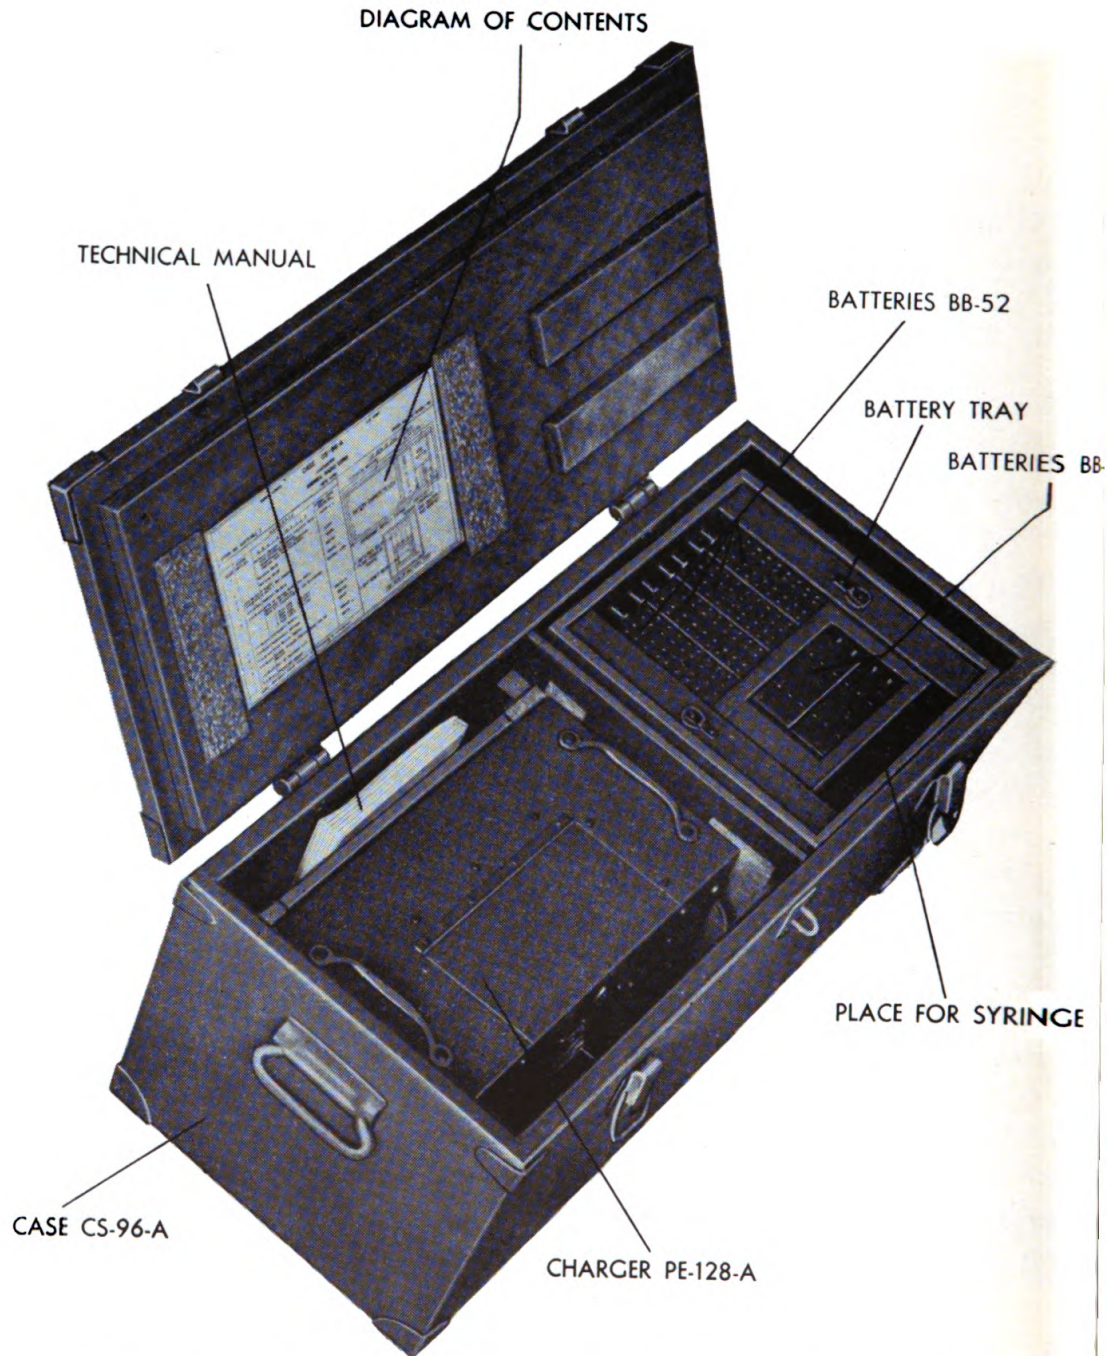
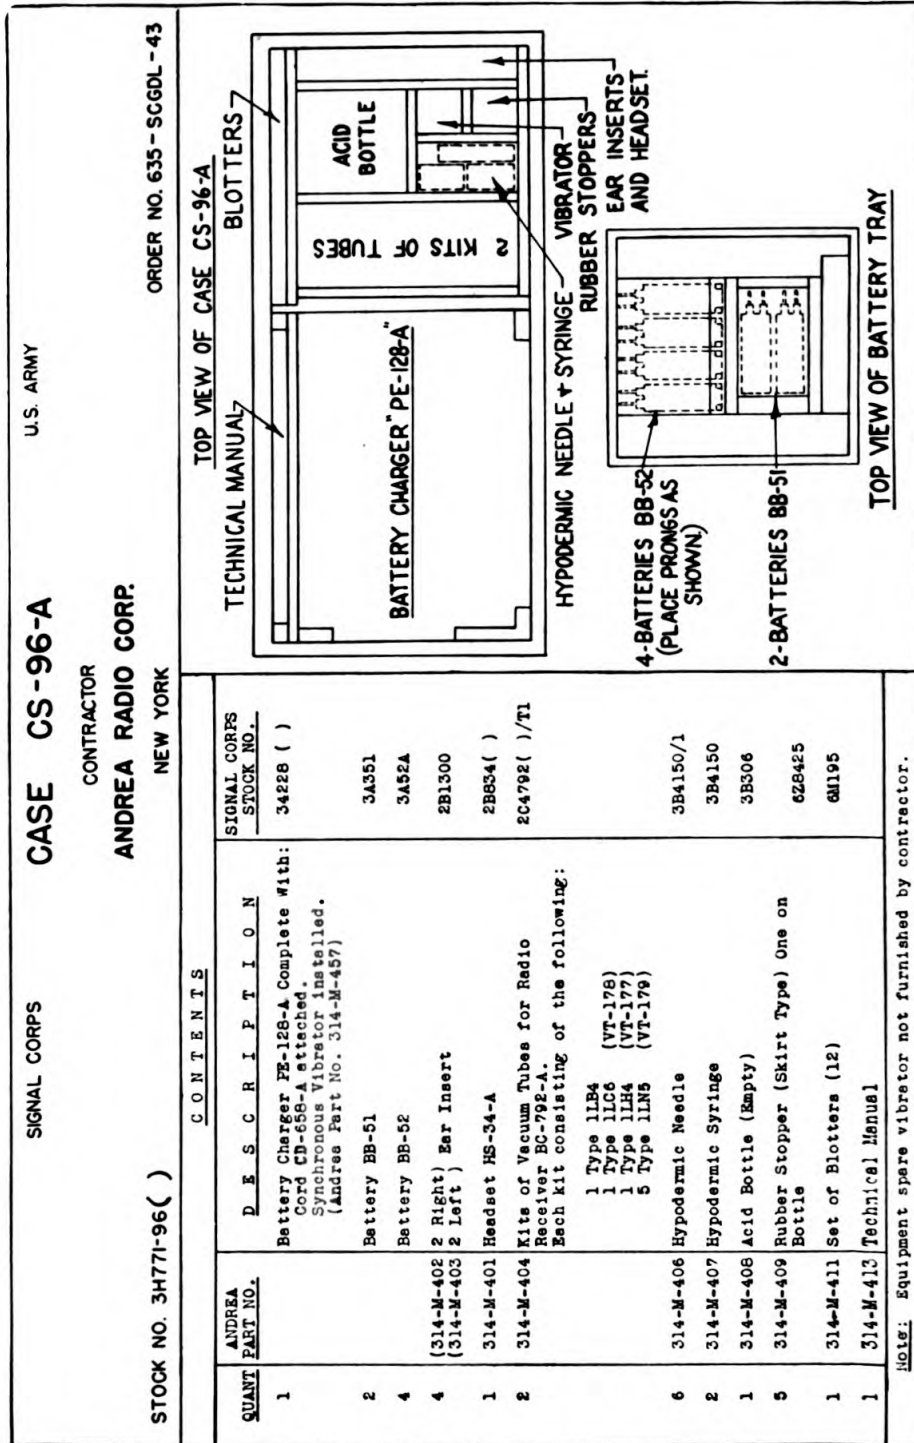

Figure 4. Case CS-96-A, Front View, Lid Open Showing Contents
Figure 5. Diagram of Contents of Case CS-96-A
6. Case CS-96-A (figures 4, 6).—Case CS-96-A is a plywood case which houses Battery Charger PE-128-A and accessories. The case has metal-reinforced corners. The rubber strip on which the latched lid rests forms a water-tight seal when the draw bolts are closed. A hinge hasp suitable for padlocking is provided.
The interior of the case is divided into compartments for the contents. A removable tray in the upper right-hand side of the case (figure 4) is designed for the six miniature storage batteries. The smallest compartment in the tray is for the hypodermic syringe when it is not packed away in its transit compartment, below the tray. The tray and the compartments below it are coated with an acid-resisting enamel. On the under side of the lid is a list of contents, together with a chart showing how the contents are placed in the case (figure 5). These accessories and spares are in Case CS-96-A: